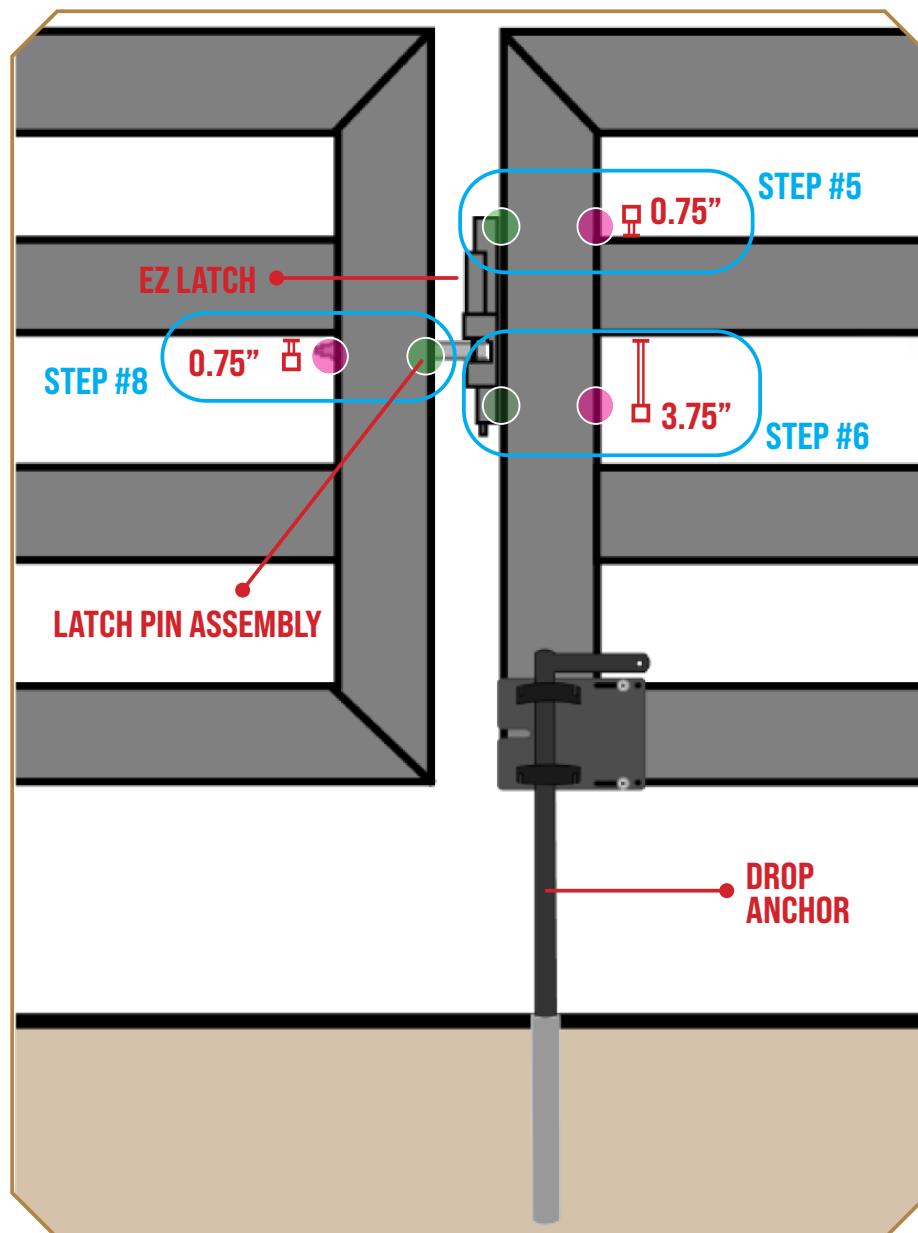

Figure 2
2. Drill three  $2\frac{1}{32}$ " holes (1 hole on the pin-gate; 2 holes on the ground-anchor gate) using a step drill. Reference the pink circles on Figure 2 for placement.
3. Drill three  $1\frac{3}{32}$ " holes (1 hole on the pin-gate; 2 holes on the ground-anchor gate) using a step drill. Reference the green circles on Figure 2 for placement.